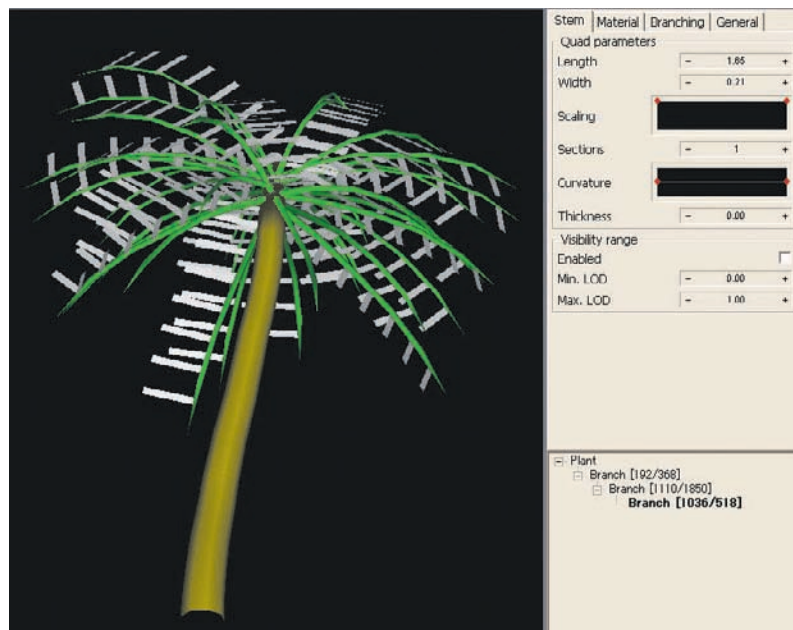
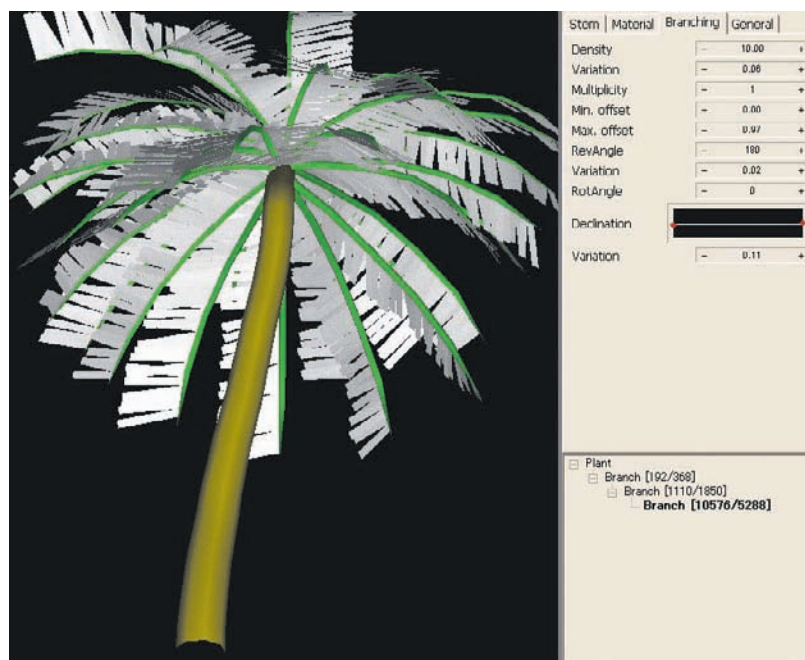

Figure 7.34 Stem parameters for leaves
Figure 7.35 Branching parameters for leaves
7. Set the Stem parameters for the leaves as shown in Figure 7.34 and the Branching parameters as shown in Figure 7.35. The RevAngle is set at 180 so that the leaves form a canopy on each branch by extending directly off of opposite sides of the branch. At this point, however, note that each leaf quad is visible from only one side. For this reason, the 180-degree-rotated leaves cannot be seen in the figure, because their normals are pointing in opposing directions. If you rotate the view around, you will see that they are there.